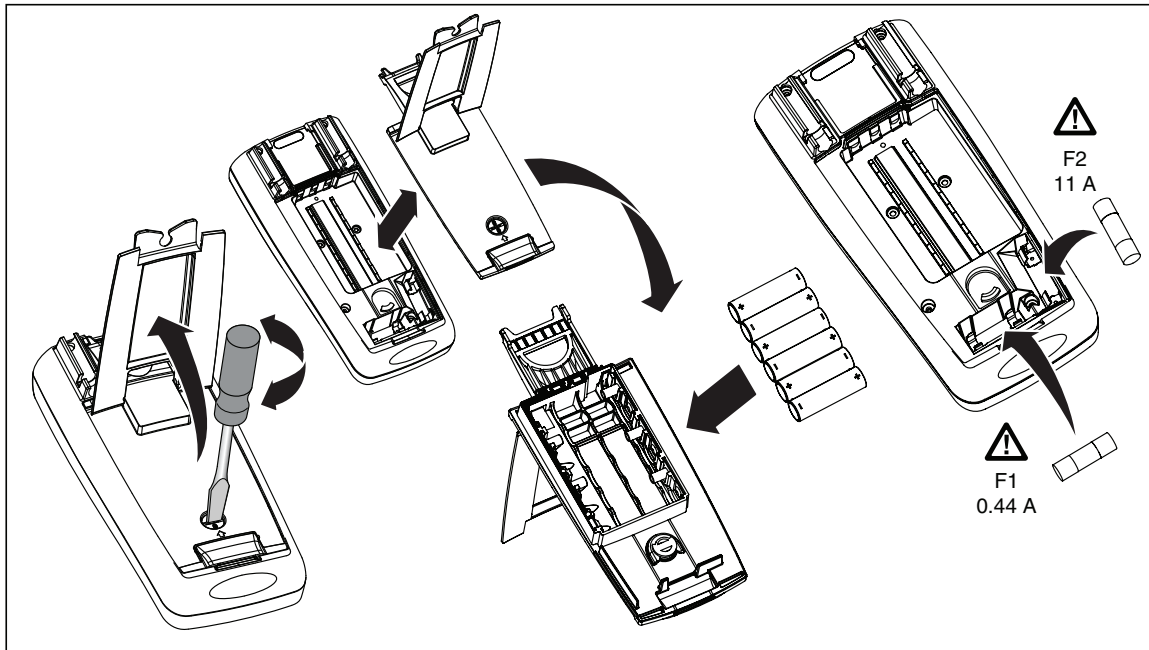

Figure 3. Battery and Fuse Replacement
3. Lift up on the bottom of the battery pack and slide it down to remove it as shown in Figure 3.
To replace the fuses, refer to Figure 3 and do the following:
To replace the batteries, refer to Figure 3 and do the following: